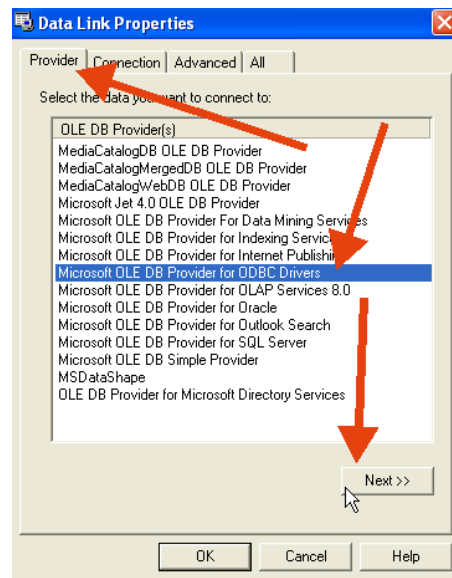

Figure 4-5
4.2.5. Choose *Microsoft OLE DB Provider for ODBC Drivers* from the list on the *Provider* tab, then click [**Next >>**]. (Figure 4-5)